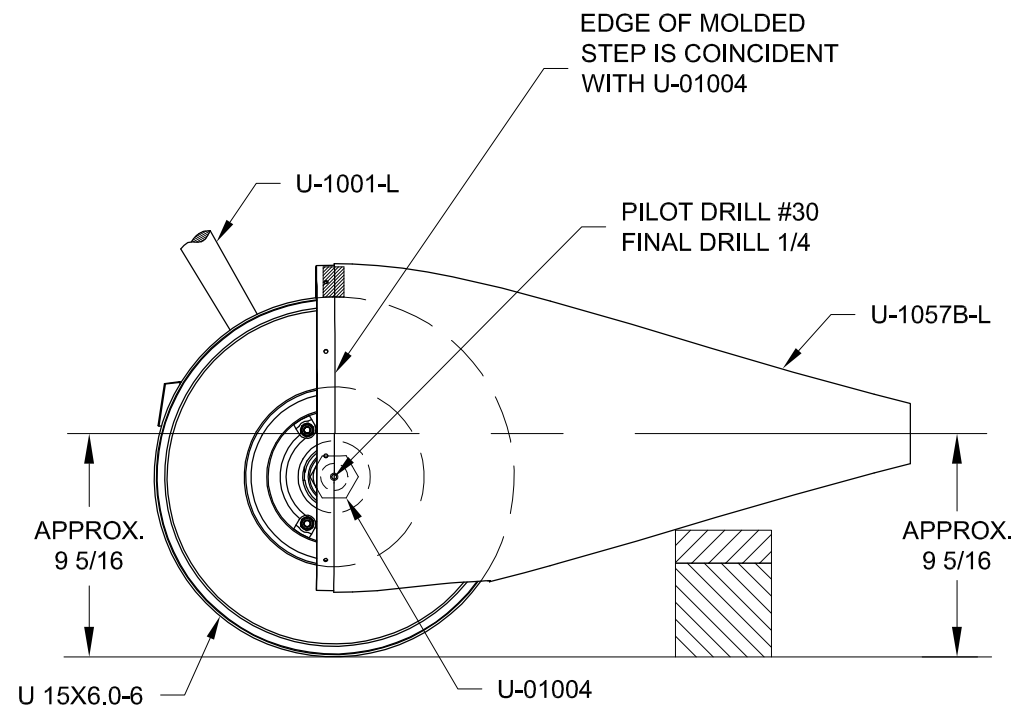

FIGURE 1: DRILL FAIRING
Step 1: Drill the U-1057B-L Wheel Fairing Rear as per the callout at the intersection of the U-01004 Axle Nut Standoff and the molded step as shown in Figure 1. Mark the hole location for drilling from the inside. Pull the fairing forward and drill with a right angle drill from the inside out, or translate the hole location to the outside surface and drill.